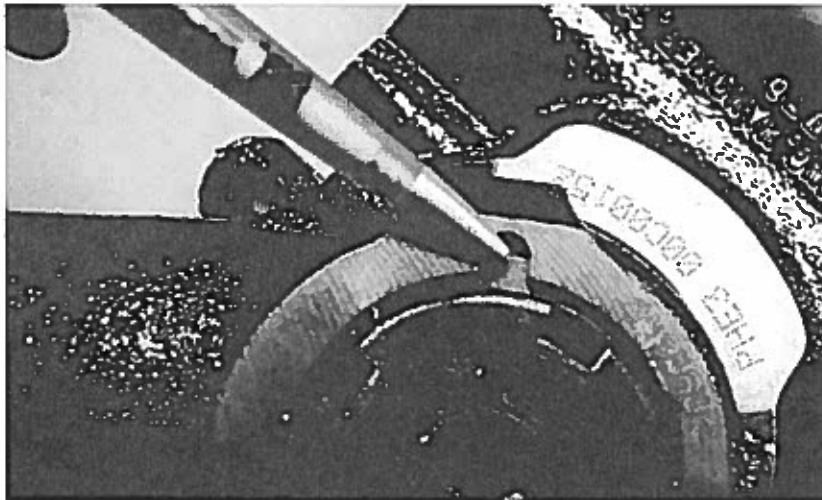

Figure 7
9. Screw the retainer into the sector shaft by hand and align the tabs of the restrainer with the notches of the pitman arm (Figure 7).